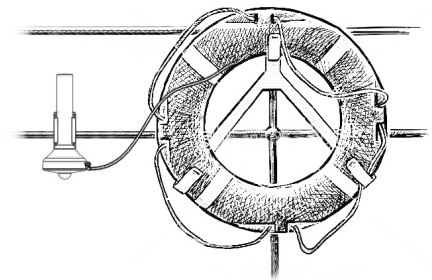

Figure 3-3
The AQLBA Lifebuoy Light is supplied with an installation clip (with two water sensor caps). The clip should be mounted adjacent to the lifebuoy, and the light placed on the clip and firmly tied to the lifebuoy with the rope. The typical installation is shown as Figure 3-3.
3.2.3 When the light is installed, securely fasten the rope to the lifebuoy as Figure 3-3. When the lifebuoy is thrown into the water, the light must be automatically pulled from the clip and thrown into the water with the lifebuoy.
3.3.2 Remove the used batteries and replace with 2 new AA alkaline batteries, the negative pole towards the battery case and positive pole towards the LED lamp as Figure 3-3 shows.
3.3.3 Screw the head of the light back onto the battery case. Users must ensure the rubber sealing ring is in correct position and screw it tightly to make sure the light is waterproof as Figure 3-3 shows.